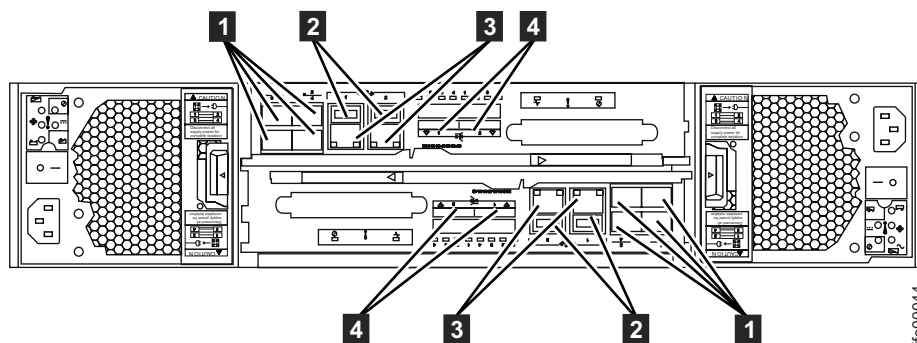
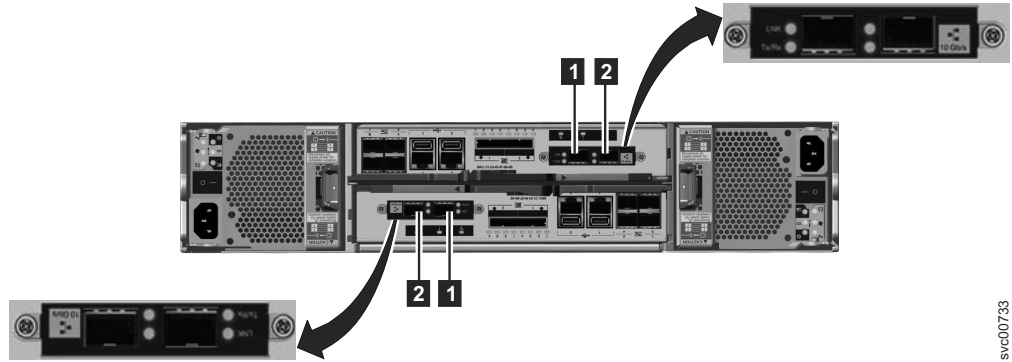
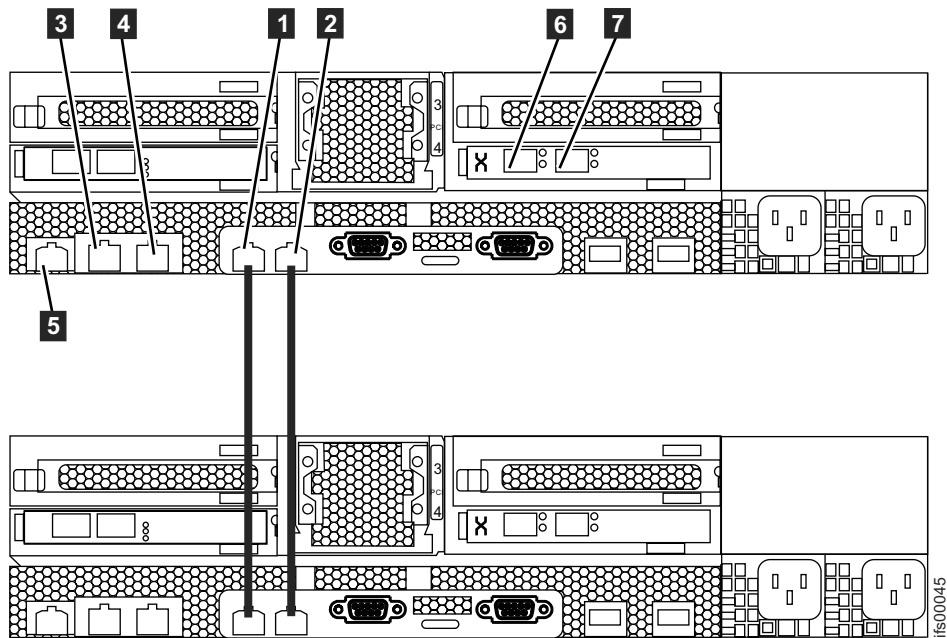

Figure 35. Control enclosure Ethernet network connections.
Figure 36. 10 Gbps Ethernet ports on the rear of the Storwize V7000 enclosure
Figure 37. File module node Ethernet network connections.
This task assumes that your initial planning has determined where the Ethernet cables are to be located. The Storwize V7000 Unified control enclosure requires at least one and a maximum of two 1 Gbps Ethernet connections. Refer to Figure 35, Figure 36 on page 33, and Table 3 on page 33. For the file modules, the first two 1 Gbps Ethernet ports labelled **1** and **2** in Figure 37 on page 34 are used for internal communications between the file modules. The third and fourth 1 Gbps Ethernet ports are used for management and data (if needed). All 10 Gbps Ethernet ports are dedicated to data. Management cannot be performed over the 10 Gbps Ethernet. Refer to Figure 37 on page 34 and Table 4 on page 34.
If you encounter that situation, change the service IP addresses on the new nodes before connecting the Ethernet cables. For details, see Figure 37 on page 34 or see the *Storwize V7000 Unified Problem Determination Guide* PDF on the DVD for further information about setting service IP addresses using a USB key.
- Connect an Ethernet cable from Ethernet port 1 on the first file module to the first Ethernet port on the second file module. Refer to Figure 37 on page 34 for port locations.
You have two 10 Gbps Fibre Ethernet ports available for host connections from each file module. The ports are on the PCI card located in slot 4. Connect your network cables to the Ethernet ports in these slots as applicable. Refer to Figure 37 on page 34.